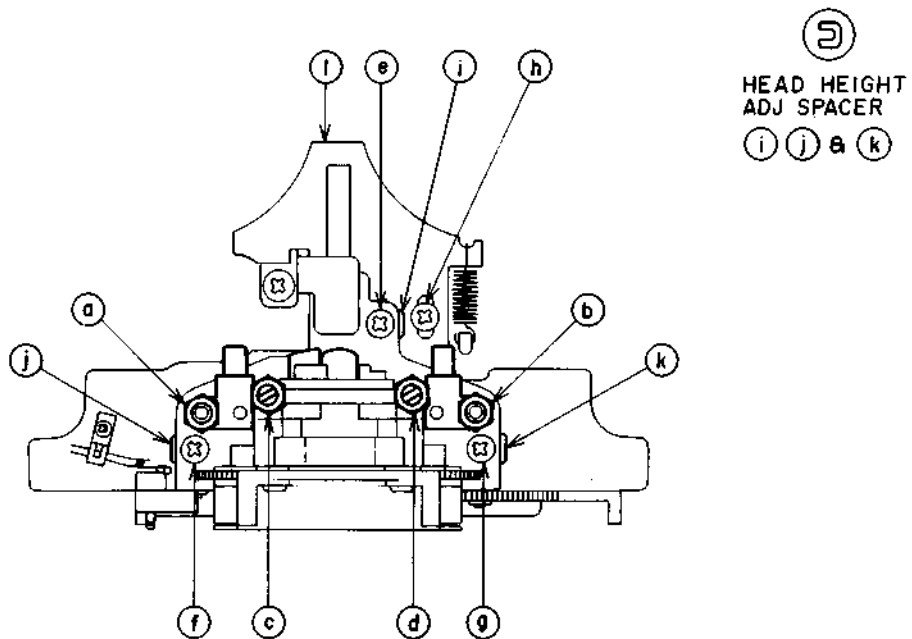

Fig. 6-2
- 2) Adjust the tape guides A and B by turning the tape guide height adjustment nuts (a) and (b) in Fig. 6-2, so that the tape runs smoothly by the lower edge of both tape guides, and the tape is not hitched by those tape guides.
## 6-4 HEAD BLOCK PROJECTION ADJUSTMENT (Refer to Figs. 6-2 & 6-3)